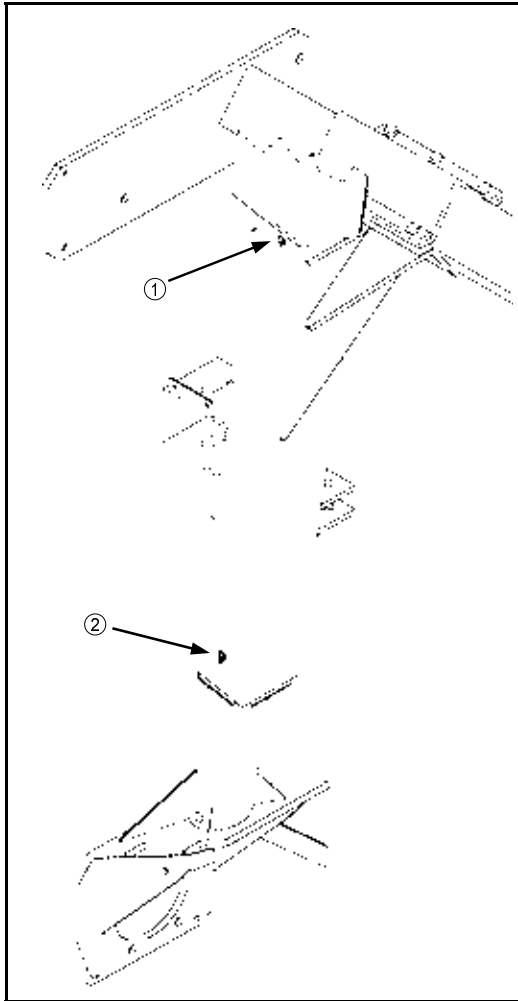

FIG 8.34
Hagie 284 leg assemblies are constructed with upper and lower nylon bearings for suspension telescoping between the inner and outer leg weldments. These bearings must be lubricated to avoid bearing failure and ensure optimal ride quality. There are grease zerks located on the sides of the leg assemblies, one for the upper bearing (fig. 8.34, item 1) and one for the lower bearing (fig. 8.34, item 2). Greasing both bearings on both front legs daily is very important.